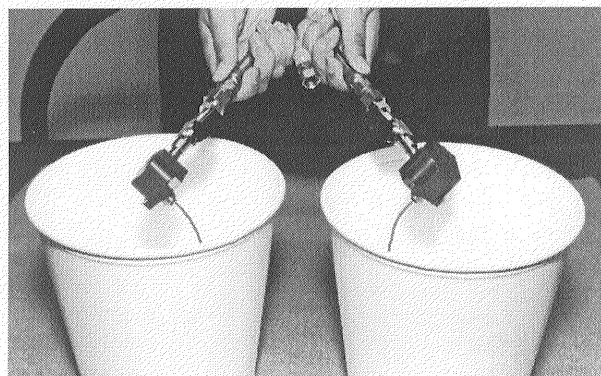
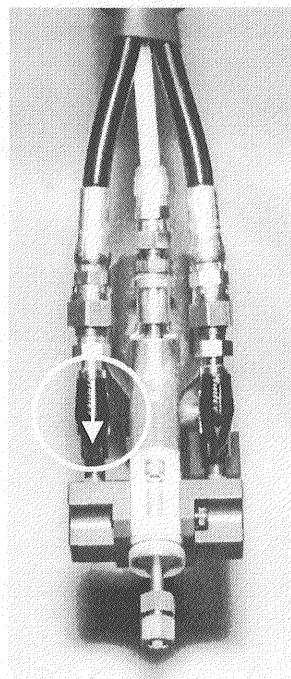

Fig. 1
Fig. 2
3. Place separate clean containers under each individual Side Block. Open manual Material Valves (black arrow forward, see Fig. 2 & 3) on each Side Block to allow trapped air to escape the Hose and material to flow into the containers until all air is purged from the material system. **(See Fig. 1)**
(see Fig. 2 & 3)